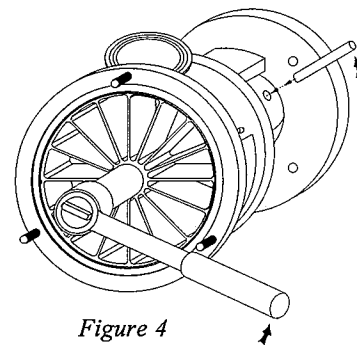

Figure 4
Remove the housing guard (12) and flange guards (37) by loosening and removing the guard screws (13). Place the 3/8" diameter rod in the hole opposite the shaft clamping bolts (31) on the impeller shaft. Allow the rod to rest against the pump flange adapter (32) to keep the shaft from rotating while loosening the impeller nut (4) with the 15/16" socket wrench (**Figure 4**).